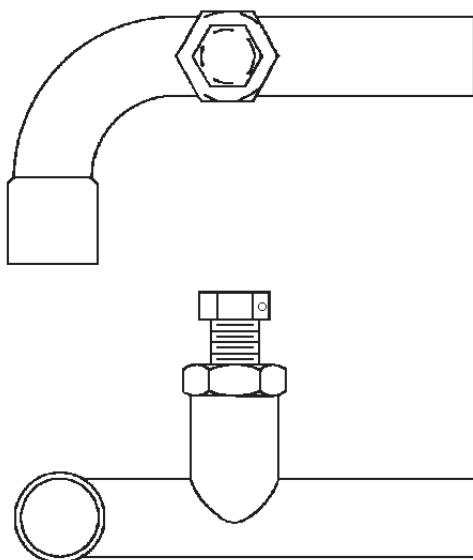

Figure 6-54. Fixed Wastegate (Typical)
2. For initial setting at installation or replacement: Screw the adjustment bolt (Figure 6-54) clockwise (*CW*) to the fully seated position. Turn the adjustment bolt counterclockwise (*CCW*) ten (10) turns and lock in position with the jam nut.